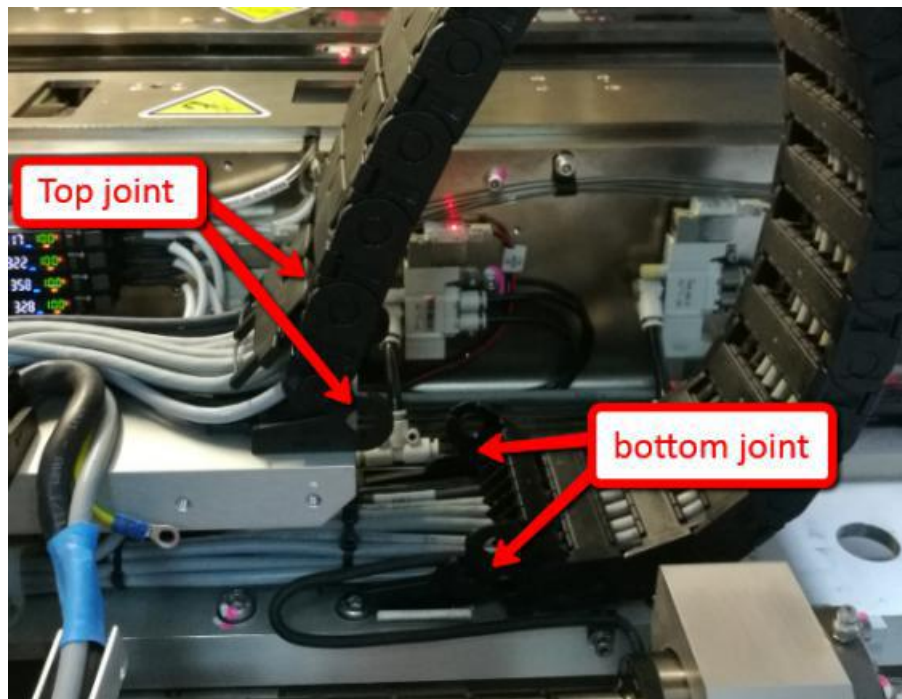

Figure 17
19. Use flat screw driver to open X-Axis E-chain Bottom joint as shown in Figure 17.